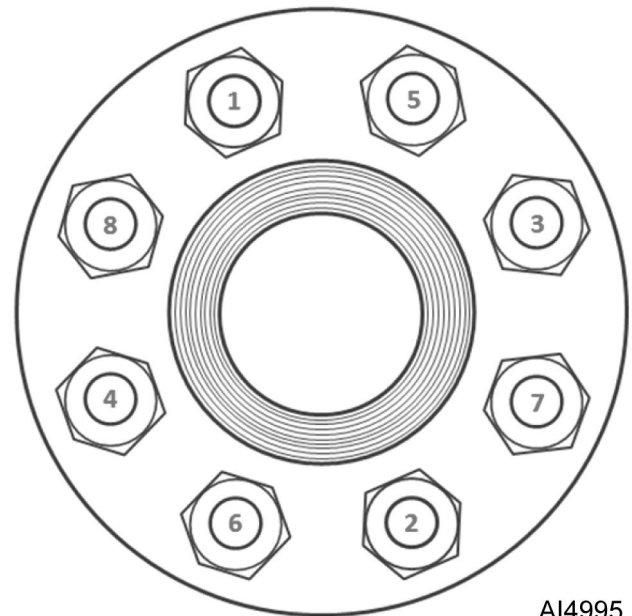

Fig. 16
12. Torque all flange bolts to 38 Ft/Lbs. in 3 passes as shown in Fig. 16.